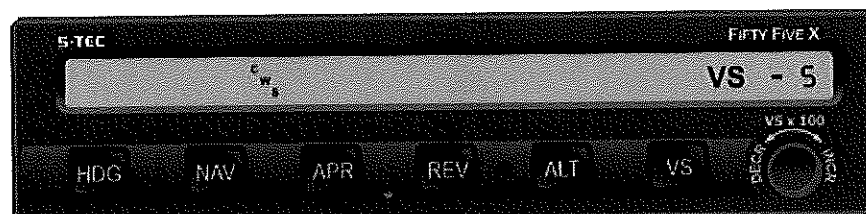

Fig. 2-10. AP Display, CWS Mode Engaged, 500 FPM Descending (Pre-Flight)
18. Rotate AP Modifier Knob CCW until -5 (500 FPM descending) is commanded, as shown in Fig. 2-10.	A/C Control Wheel moves in forward direction.